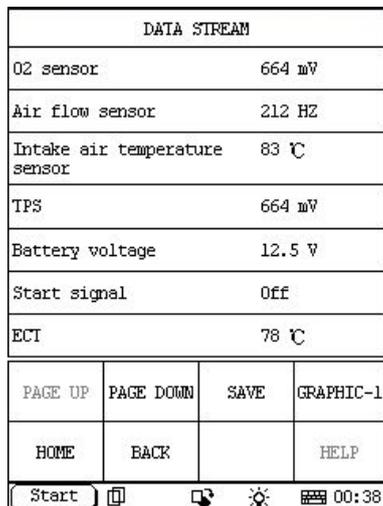
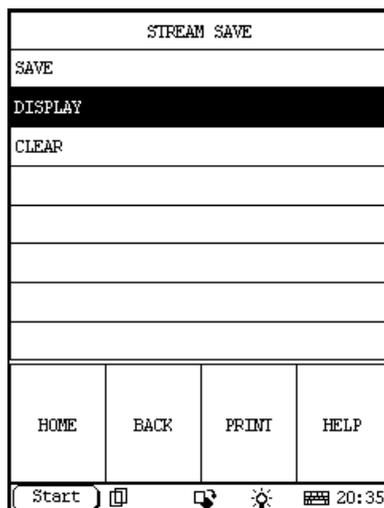
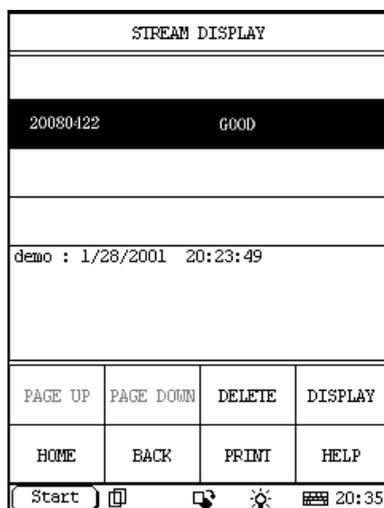

Figure 2-42
Figure 2-56 (click 'Display')
Figure 2-57 (select filename and click 'Display' / 'Delete')
Click 'OK' to show the data, as shown in figure 2-42.
1. Connect and enable communications between X431MASTER and the vehicle, entering interfaces as shown in figures from figure 2-42, to figure 2-56, figure 2-57 and figure 2-58.
In figure 2-56, click Display, all the saved files of the DataStream will be displayed as shown in figure 2-57. A file indicates the name of the diagnostic program used, the date and the time of the recording, these information enable user find out the needed records. In figure 2-60, select a saved file and click Display, one frame of the data will be displayed as shown in figure 2-61, click <- or -> to view the previous or next frame of the data. View and consider the data to find out the changes as well as the similarities and differences before/after the fault, thus to facilitate the analysis and removal of the faults.